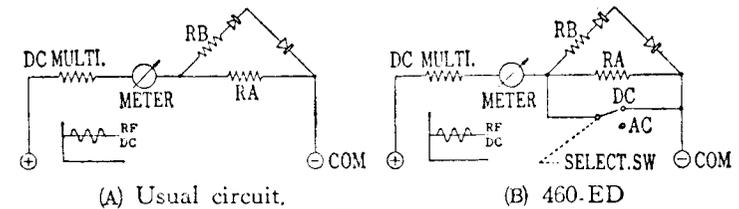

Fig. 4
3. 1. 2 Disturbance of Non-linear Element. Fig. 4(A) on next page is the circuit of a tester for DC measurement where a double-element rectifier is used, and the circuit resistance R_A is common with AC voltage measurement. This circuit will produce practically no error of indication so far as usual audio circuit is concerned, but for a circuit where HF current above 100kHz is present mixed, much of the current flows into the tester through the floating capacity of the switch, and the impedance on both sides of R_A is reversed owing to the asymmetrical property of a diode. In consequence, the mean value current which should not be read on the meter remains indicated causing a big error because of the DC voltage which